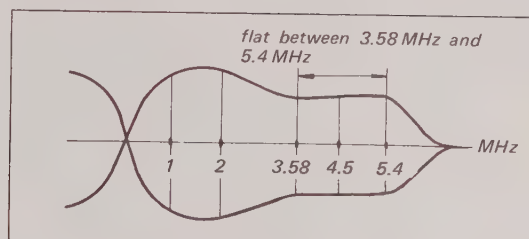

Fig. 8-2. Head response and damping
4. Adjust C403 and R401 for a flat response between 3.58 and 5.4 MHz. See Fig. 8-2.
8. Adjust C411 and R416 for flat response between 3.58 and 5.4 MHz. See Fig. 8-2.